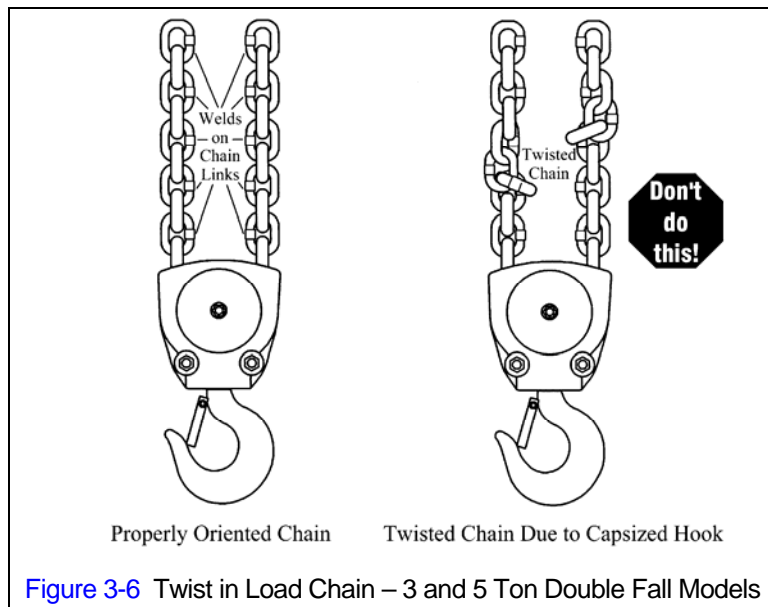

Figure 3-6 Twist in Load Chain – 3 and 5 Ton Double Fall Models
- 3.2.6 **⚠️WARNING** Verify that the load chain is not twisted or tangled prior to operating the hoist. Make sure the bottom hook on 3 and 5 Ton double fall models is not capsized. See Figures 3-6 and 3-7. Correct all chain irregularities before conducting the first hoist operation.